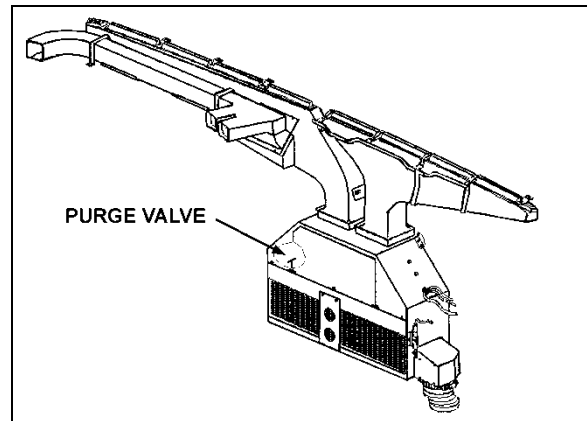
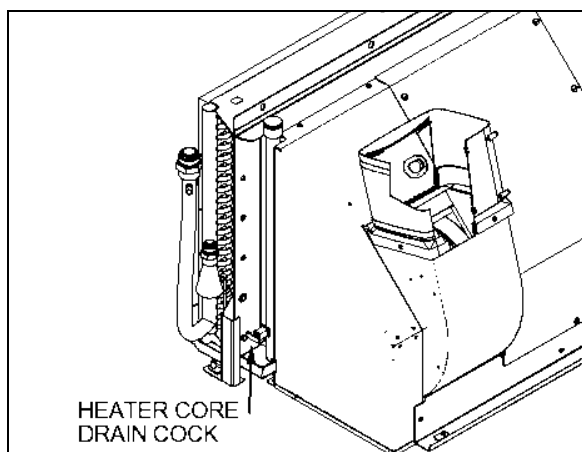

FIGURE 51: DRIVER'S UNIT AIR MIXING BOX
FIGURE 55: HEATER CORE DRAIN COCK LOCATION
4. From inside the vehicle remove the two finishing panels in front of the unit. Remove the three screws fixing the unit front panel. Open the purge valve located inside the driver's unit (Figure 51) to ensure an efficient draining.
4. Open drain cock in bottom of heater core (Figure 55) you can unfasten a hose connection on top of heater core in order to allow air to enter while draining. The main heater core drain cock is located in the evaporator compartment. To access the valve, open baggage compartment door located in front of the evaporator compartment (L.H. side). Open the evaporator compartment access panel.
Whenever the heating system has been drained and refilled, or the system has run low on coolant and coolant has been added, it is necessary to bleed air from the heating system. Locate the purge valve illustrated in Figure 51 & Figure 55, and open them momentarily until no air escapes from the lines. If present, open the manual vent located inside the HVAC unit, on the driver's side.